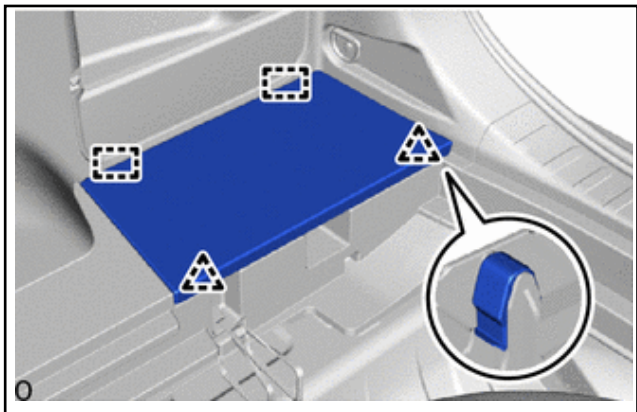

Figure 3-2
b. Detach the 2 clips and 2 guides and remove the luggage trim service hole cover. See Figure 3-2.